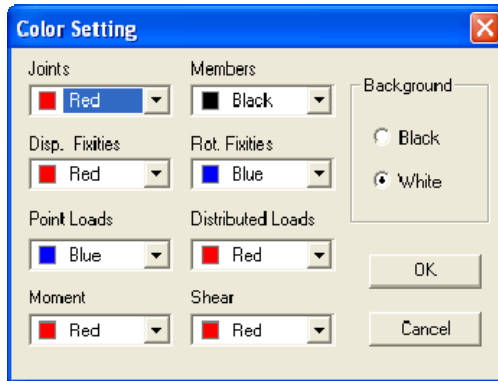

Figure 3-52 Color Setting dialog box
- From the Options menu, select Color. The dialog box of Figure 3-52 appears. You can change the color of the displayed joints, members, translational fixities, rotational fixities, point loads, distributed loads, result moment, and result shear. To change the color of an option, open the list box associated with it, and select a new color from the drop-down list.